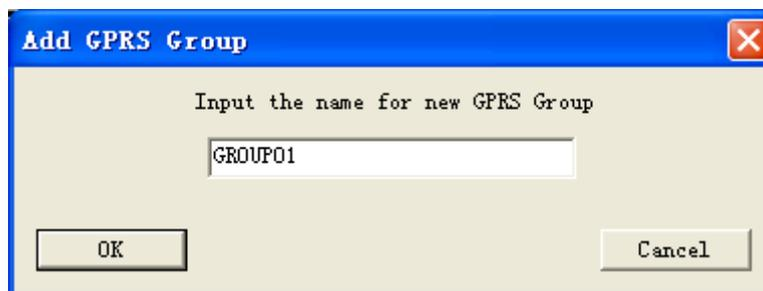

Fig2.65
2. Set the GPRS Group. Click button, it will display a dialog box to set the GPRS Group as fig2.65. In dialog box input the name for GPRS Group, then click ‘OK’ button to confirm. Then the group’s name will be displayed in “Available GPRS Group” window.